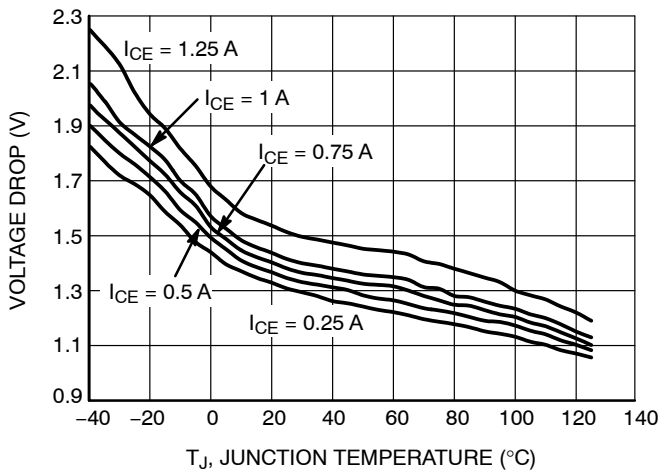

Figure 7. Voltage Drop in Emitter Follower Configuration
- 9. V_{SWCE} – Darlington Switch Collector to Emitter Voltage Drop, refer to Figures 7 and 8.